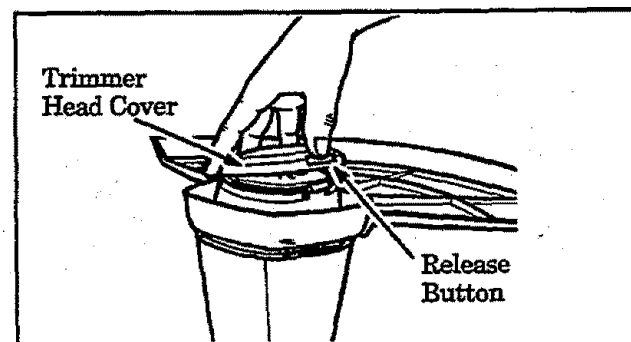

Figure 12
- b. Push the Release Button and remove the Trimmer Head Cover. Figure 12.
- g. Reinstall Trimmer Head Cover. Figure 12.